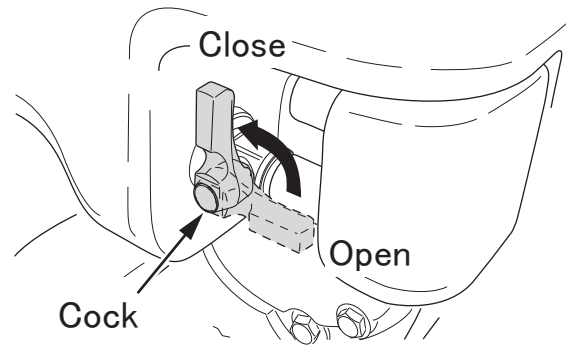

Fig. 8
2. When stopping sprinkling work, close the cock of water tank. (Fig. 8)